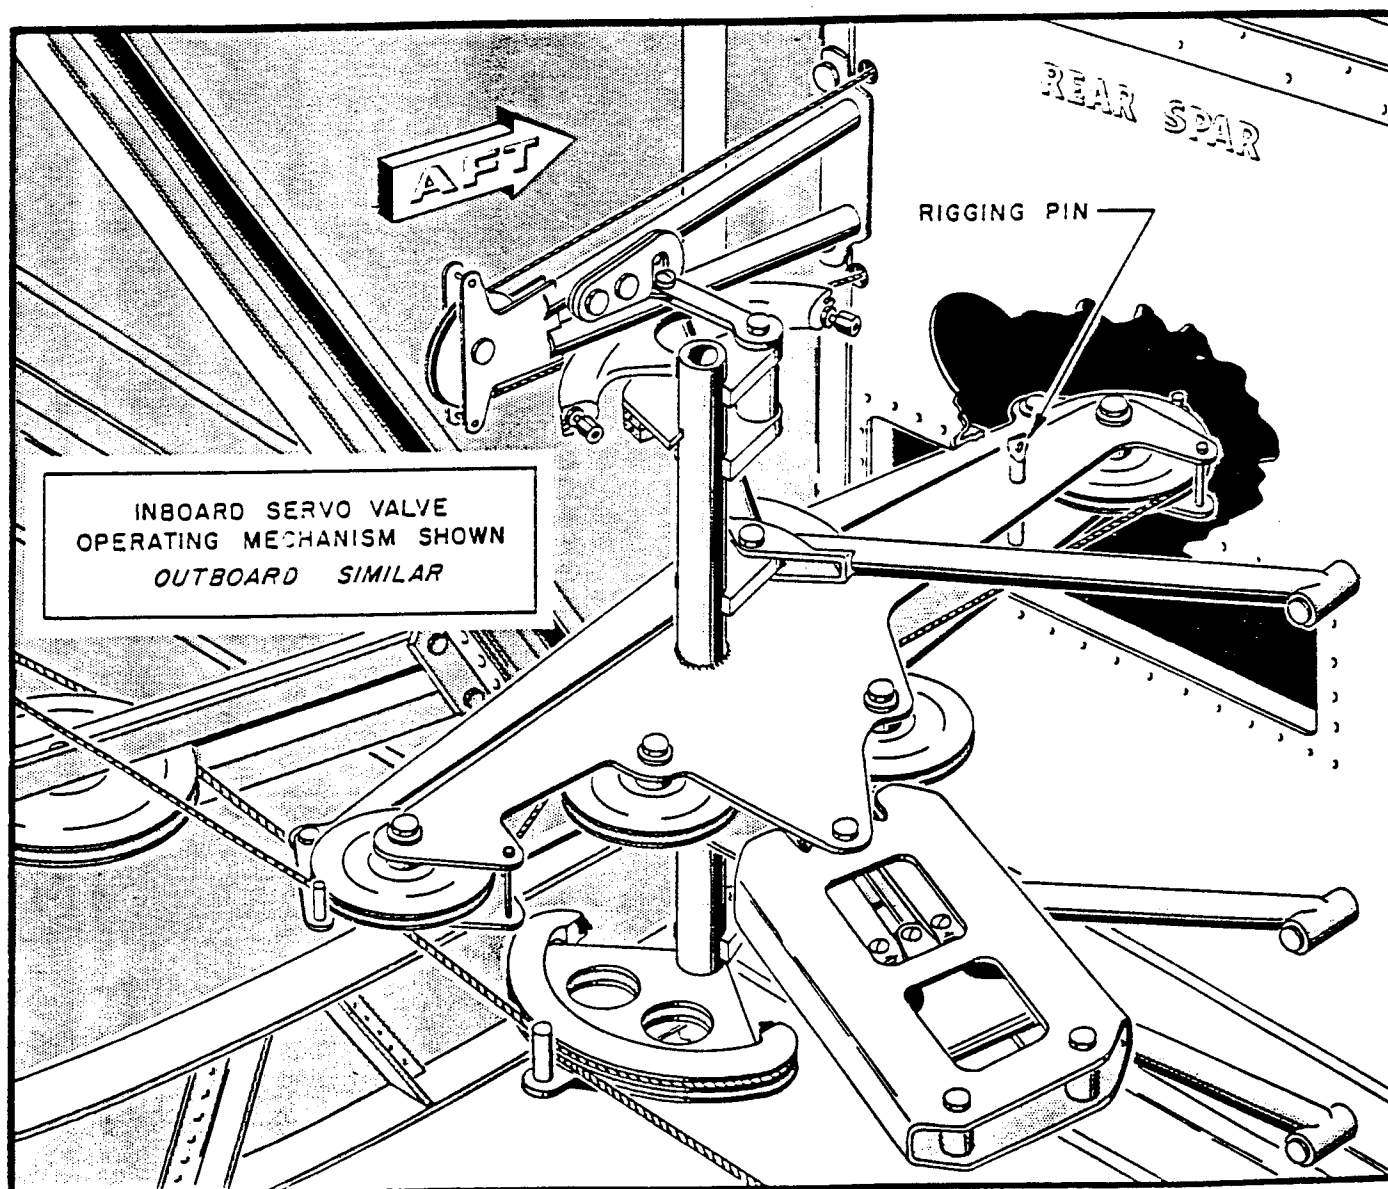

Figure 10. Rigging Pin Installed
(d) SERVO VALVE OPERATING MECHANISMS. (See figures 10 and 11.)- Two servo valve
- c. Install a 1/4-inch bolt or pin through the rigging hole in the bellcranks at each servo valve operating mechanism. (See figure 10.)